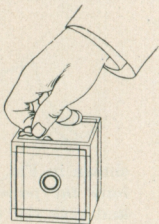
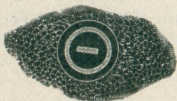

Fig. 6.
Fig. 7.
9. Turn key to the left, (Fig. 6), until the number 1 appears before the little red window in back of camera. Fig. 7.
Place the sitter in a chair partly facing the light, and turn the face slightly toward the camera (which should be at the height of an ordinary table). For a bust picture the camera should be 5 feet from the figure; for a three-quarter figure 7 feet, and for a full figure 10 feet. The background should form a contrast with the sitter.